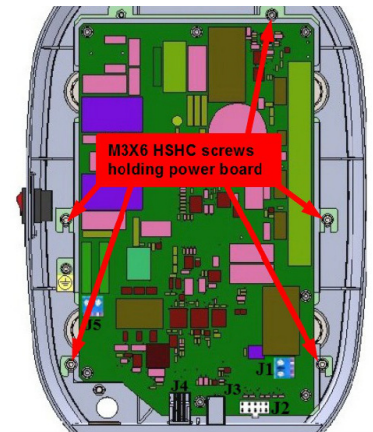

Figure 83
- Remove the 4 M3X6 HSHC screws on the power board assembly 2 on right side and 2 on left side using 2.5mm allen key as in Figure 83 .
- Hold the Power Board assembly with its plate and slowly remove the remaining 1 M3X6 HSHC screw on the top side using 2.5mm allen key as shown in Figure 83 .
- Take the new power board (along with its plate) and fix it (ensure that J3 & J4 connectors are inserted into the Base Unit rear cover) with 1 M3X6 HSHC screw on the top side of Power Board using 2.5mm allen key as shown in the Figure 83 .
- Fix the 4 Nos. of M3X6 Hex socket head cap screw 2 on left & 2 on right side of the Power Board using 2.5mm allen key to the rear cover as shown in Figure 83 .